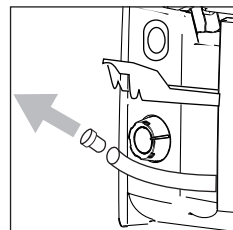

fig. 9
4. Remove the plug while at the same time squeezing the tube with two fingers to prevent the oil or fat from leaking out before the tube has been placed into a container (fig. 9).